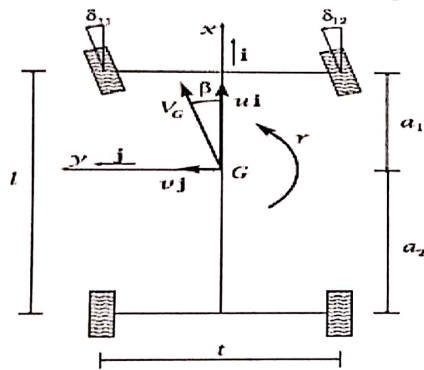

Figure Q1b
- b. (i) Consider the vehicle frame shown in Figure Q1b, If the vehicle speed $V_G = (80t - 15)$ km/hr with tire slip angle of 18° and yaw angle of 5° . Calculate the exact position of G (x_o^G, y_o^G) after 2 hours given that $[x_o, y_o] = [0, 0]$. **5 marks**